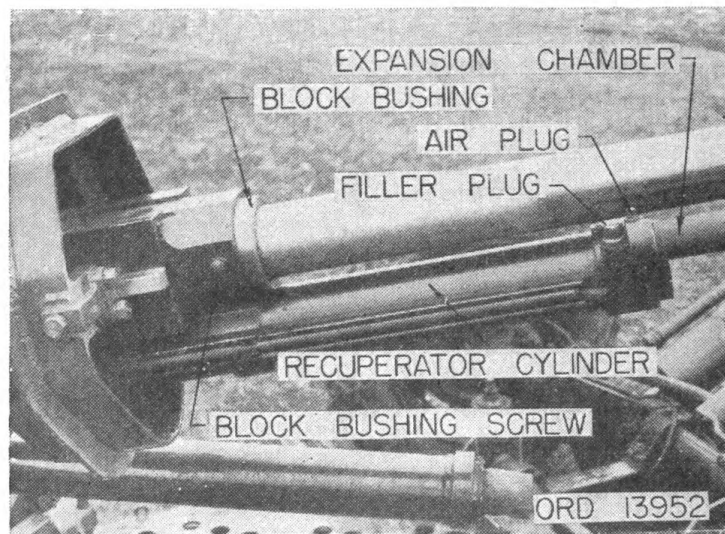

FIGURE 28.—Recuperator.
Q. Point out the parts shown in figure 28. A. See figure 28.
Q. How is the length of recoil adjusted? *A.* If the length of recoil is too great, elevate the gun slightly above 5° and put a few additional drops of oil in the recuperator cylinder through the filler plug hole (fig. 28). If the length of recoil is too small, depress the gun slightly below 5° and remove a few drops of oil. After adjustment, fire another round and recheck the length of recoil.